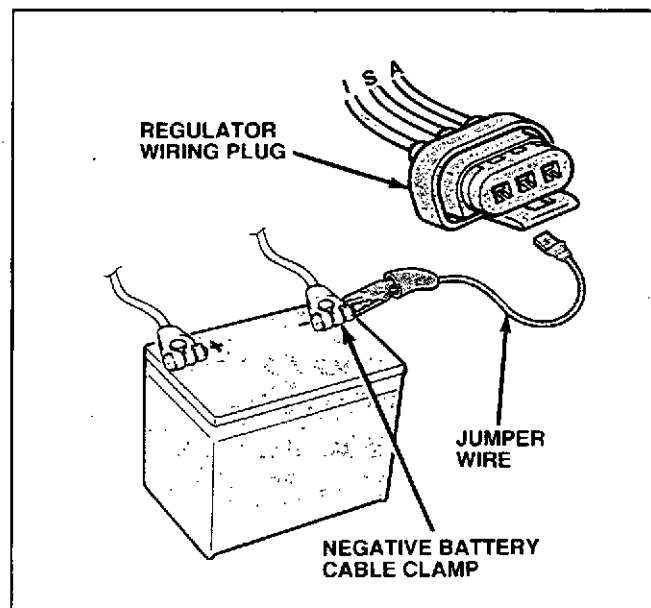

Figure 5-2 Indicator Lamp System Check — IAR System
2. Connect a jumper wire from the wiring connector I-terminal to the battery negative post cable clamp (Figure 5-2).